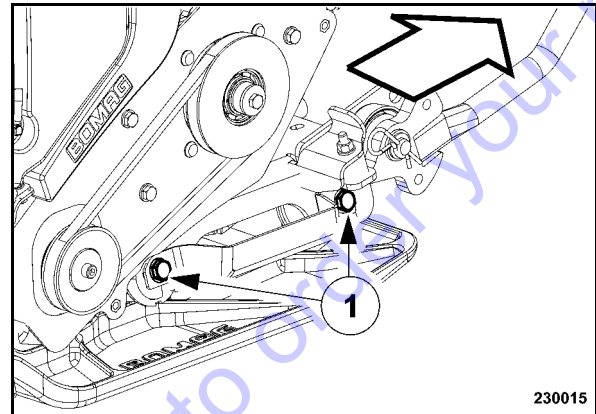

Fig. 55
- Pull the engine carrier back (Fig. 55), until the correct V-belt tension is achieved and tighten the fastening screws (1).